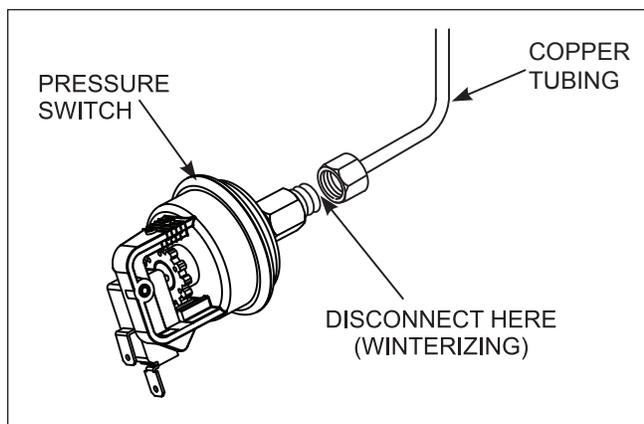

Figure 21. Pressure Switch Copper Tubing
8. Disconnect the pressure switch from the copper tubing. See Figure 21.
1. Attach the copper tubing to the pressure switch. See Figure 21.
3. Make sure that power is supplied to the pump. Turn on the filter pump and circulate water through the heater for five (5) minutes. Check for leaks while circulating.